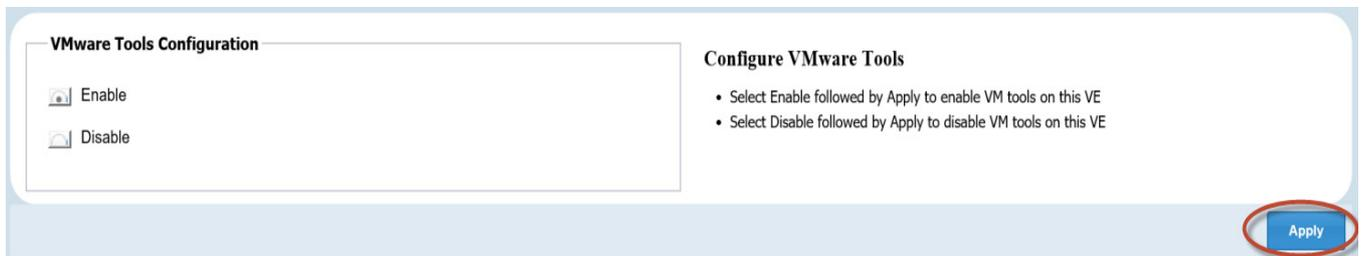

Figure 61 Enable/Disable VMware Tools
2. Select **Enable** or **Disable**, and then click **Apply**, as shown in Figure 61.